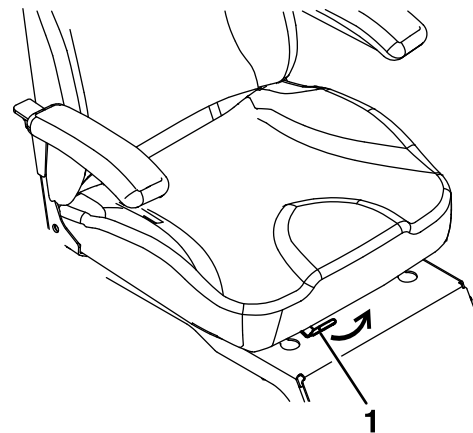

Figure 20
1. Push the adjustment lever towards the center of the machine to release the seat adjuster track (Figure 20).